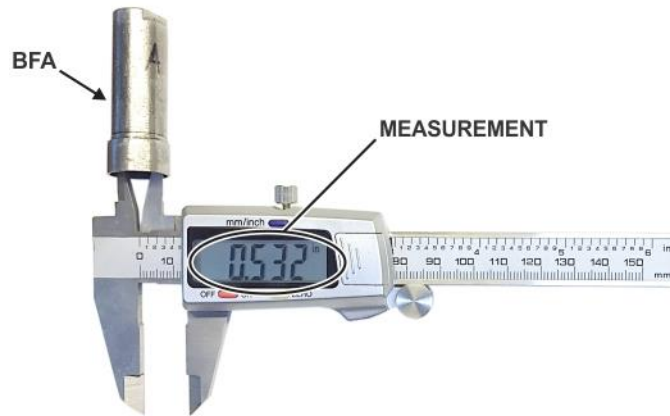

Figure 79: Diagram of Measurements
- c. Insert the inside measuring contacts or internal measuring jaws of the caliper (Figure 77) into the threaded opening of the BFA. Slowly open the caliper by using the adjusting roller until the contacts touch the threads of the BFA. The contacts should be centered in the diameter of the BFA (Figure 79).
- f. Rotate the BFA 90° and take another measurement 90° from the first measurement using the same method as the first (Figure 79).